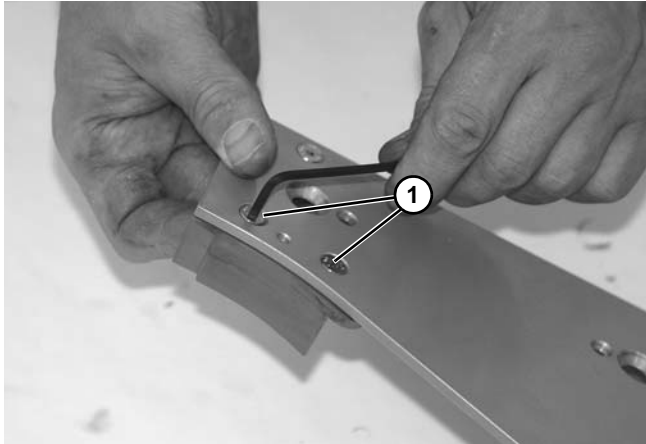

Figure 132
2. Remove two socket head screws (**Figure 132, item 1**).